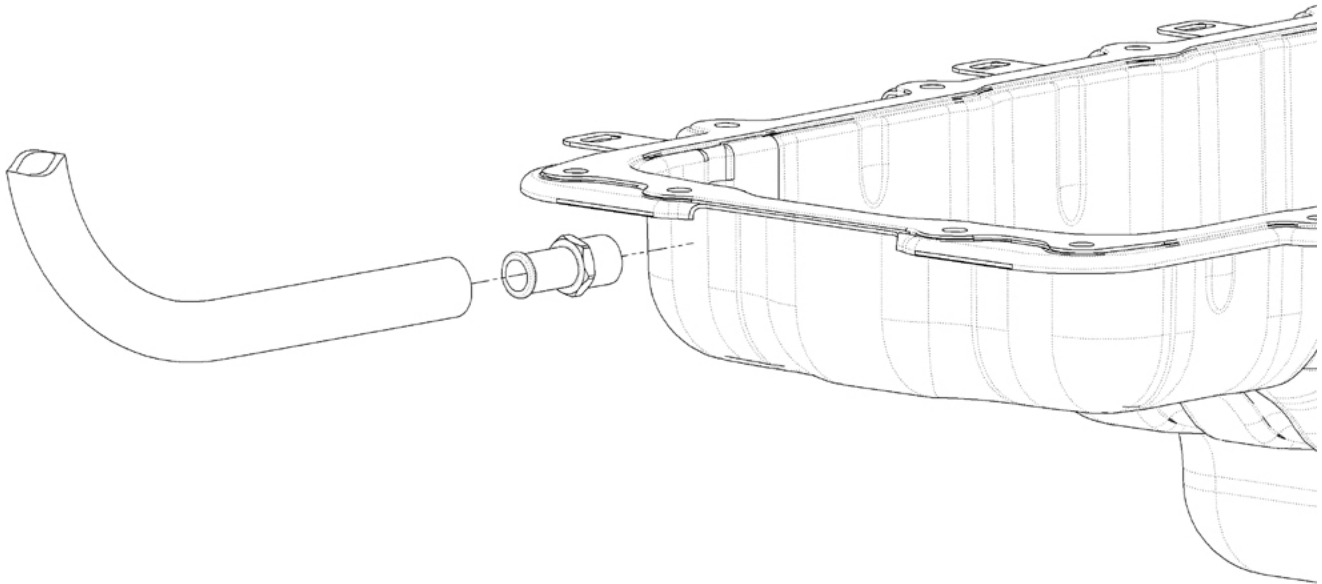

Fig. 12-1: Oil Drain Fitting Placement
- B. Mark the location for the oil drain fitting on the smooth portion of the front face of the oil pan toward the passenger side, approximately 5/8" down from the oil pan mounting flange. (See Fig. 12-b; also see Fig. 12-1 at the end of this section)